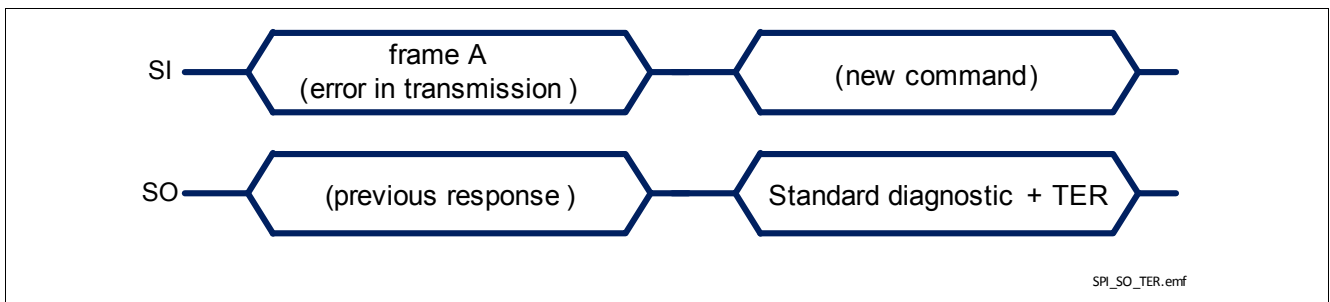

Figure 32 BTS54220-LBA response after an error in transmission
- in case an error in transmission happened during the previous frame (for instance, the clock pulses were not multiple of 8), shown in Figure 32